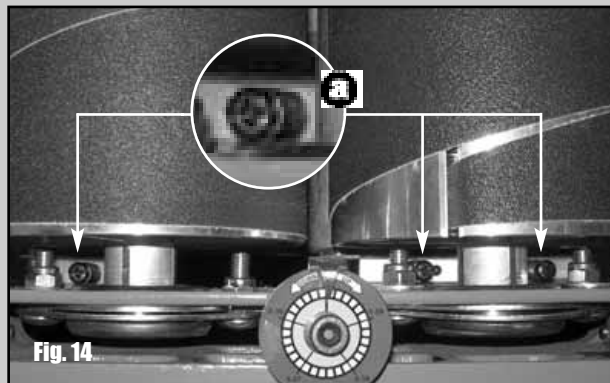

Fig. 14
2. Slightly turn the phillips head screws, **a**, located at each end of the corresponding pressure roller(s) to be adjusted. (Fig. 14)